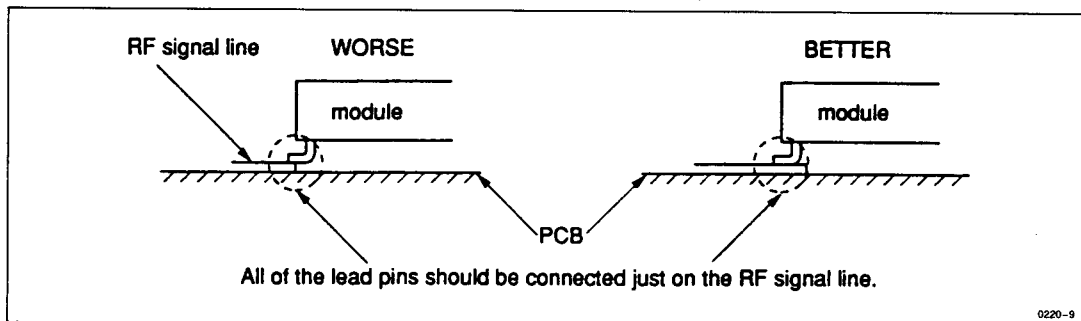

Figure 1
6. To avoid the degradation of efficiency and output power, lead pins should not be floating from PCB, and connected just on the RF signal line. (Refer to Figure 1.)